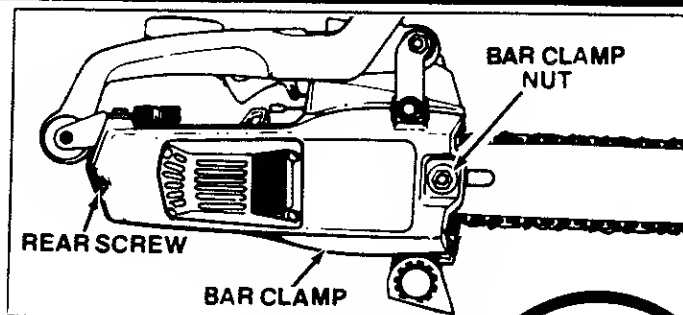

Figure 7
1. Remove the following parts as shown in Figure 7.
5. Place the Guide Bar on the saw with the large slot over the Bar Stud and the Mounting Pins (on either side of the Bar Stud). Fit the adjusting pin into the round hole below the large slot. Figure 7 and 9.